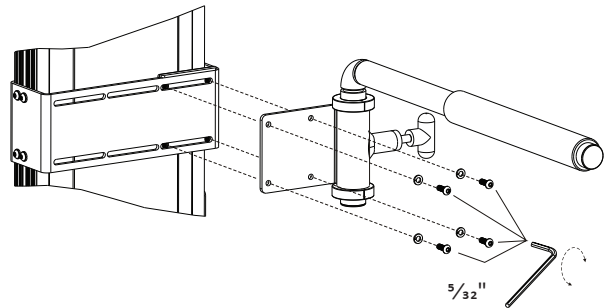

Figure 5-15
3. Remove the 4x screws and rotate the hold-down arm assembly 180°. Reposition the backing plate to the desired location and fasten the hold-down arm assembly (10 ft-lbs). *See Figure 5-15.*